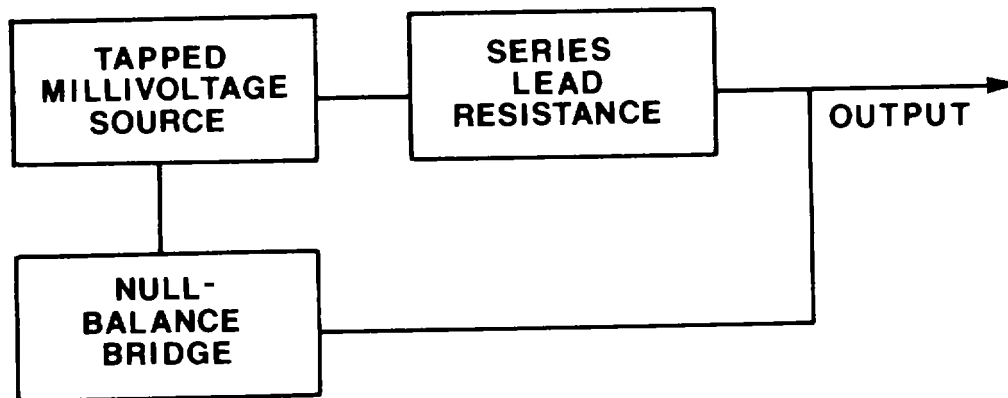

Figure 1-2. Thermocouple Section Flow Diagram
a. The tester may be visualized as consisting of two sections: Thermocouple Thermometer Testing Section and the Resistance Thermometer Testing Section. (See Figure 1-2) The millivoltage source shown is comprised of a 1.5 volt dry cell battery, two current limiting rheostats, a precision multiple-tapped, voltage divider network, and a voltmeter. The operator standardizes the current flowing through the network by adjusting the **COARSE AND FINE RHEOSTATS** and observing the pointer deflection of the **VOLTMETER**. When the pointer is coincident with the red line on the dial, the precision 27 discrete millivoltages reach their calibrated values. The proper precision millivoltage tap is selected for output by setting the pointer of the **TEMPERATURE SELECTOR SWITCH** to the desired temperature, while taking note of the thermocouple material associated with the three colored sectors. Precision resistance of 2, 8 or 22 ohms is further added in series with the source as shown by positioning the **RESISTANCE AND VOLTAGE FUNCTION SWITCH**. This resistance simulates the actual resistance characteristics of the thermocouple junction and the aircraft wiring lead resistance.